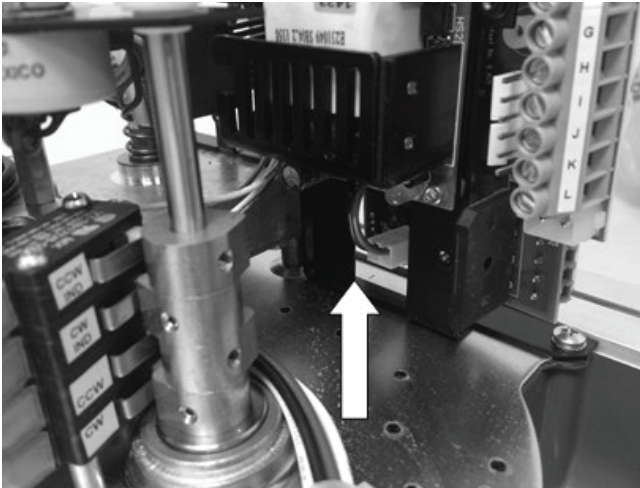

Figure 32.
- 4.34 Connect the lower Power supply cable to the Universal Control Board, see Figure 32.